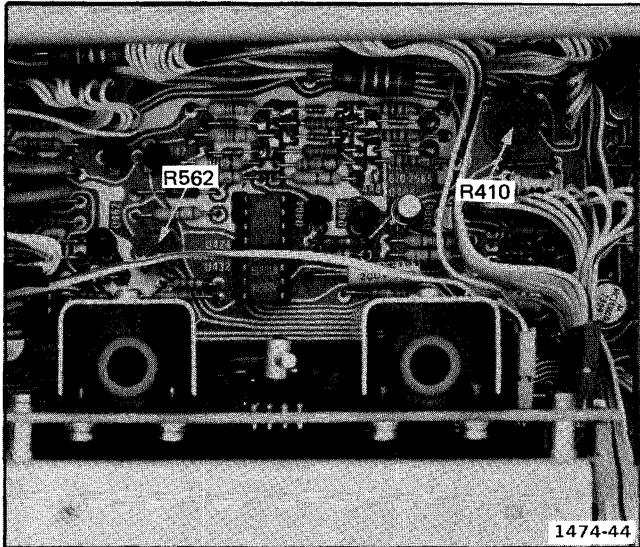

Fig. 5-5. Location of R562 and R410.
e. ADJUST—R562, Supply Cal, for 60.0 volts. See Fig. 5-5 for location.
c. Adjust Sweep Freq Adj. R410, for one cycle per division. See Fig. 5-5 for location.